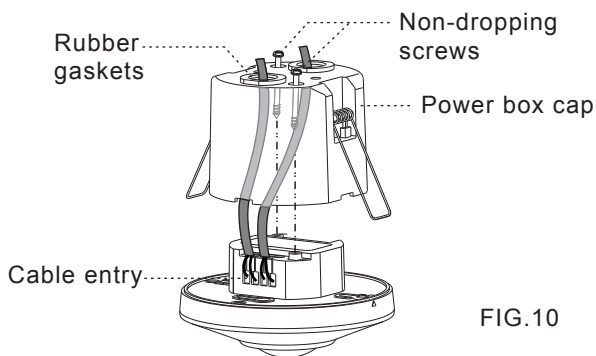

FIG. 10
- 3.4.2.2 Use a screwdriver to break the rubber gasket on Power box cap, then feed cables through it (See FIG.10).